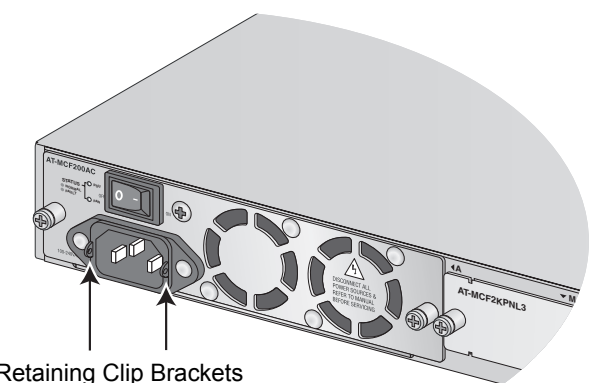

Figure 5. Locating the Retaining Clip Brackets
5. Locate the retaining brackets on either side of the AC power connector. Refer to Figure 5.